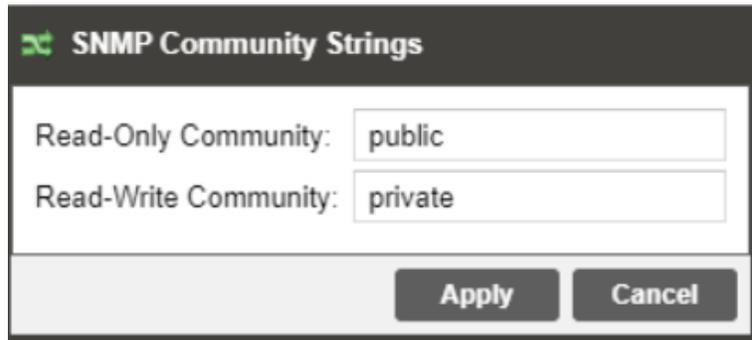

Figure 28: SNMP Community Configuration Menu
**Configure SNMP Communities** button as shown in Figure 28.